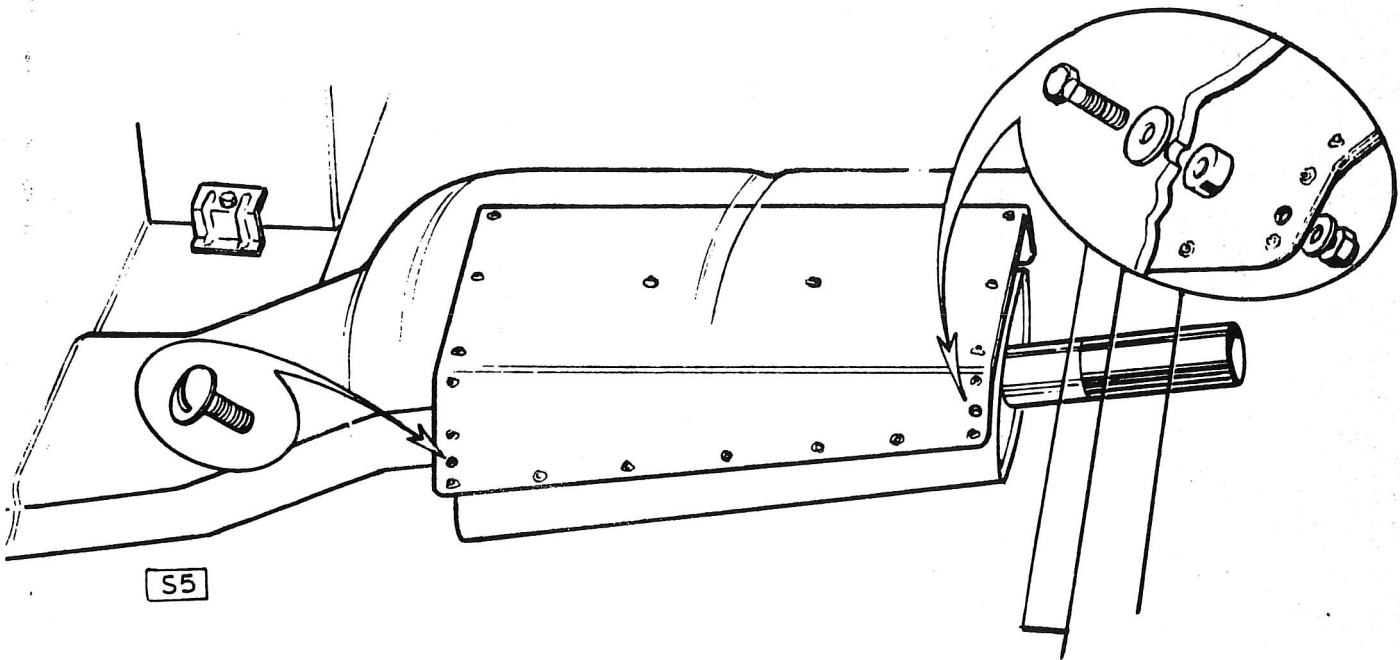

Fig. 5. VIEW OF LONGITUDINAL SHIELD THROUGH FLOOR
3. Position the heat shield (Part No. A050 S 0160) into the silencer recess (see Fig.5) so that it covers the scribe marks on the floor. The R/H edge of the heat shield should protrude below the boot floor by approximately .5 in. (12.7 mm.).